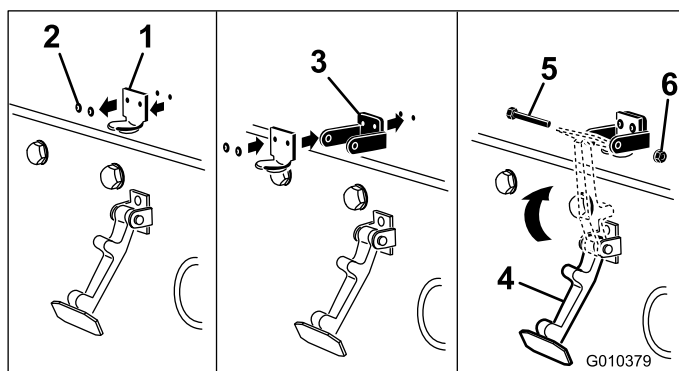

Figure 4
3. While aligning the mounting holes, position the CE lock bracket and the hood latch bracket onto the hood. The lock bracket must be against the hood (Figure 4).
5. Hook the latch onto the hood latch bracket (Figure 4).
6. Insert a bolt (1/4 x 1-1/2 in.) through the hood lock bracket and secure it with a locknut (Figure 4).